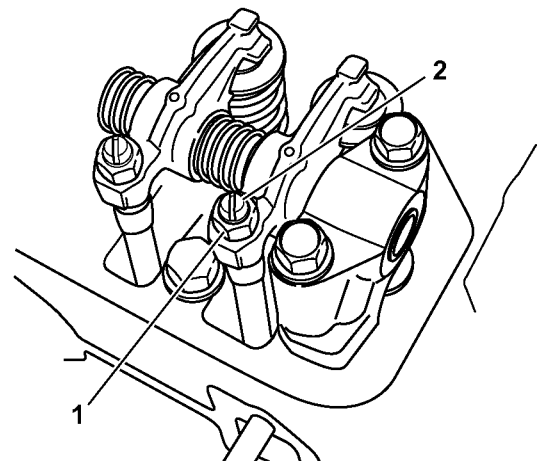
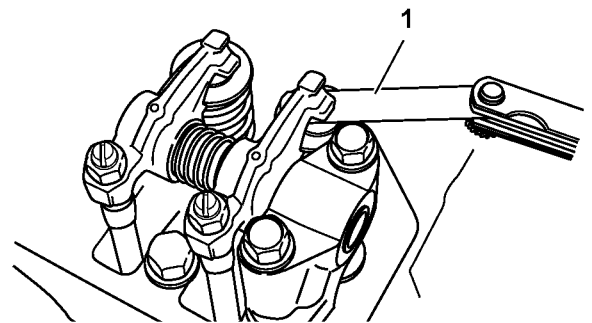

Figure 6-78
Figure 6-79
5. Loosen the valve adjusting screw lock nut (1, **Figure 6-78**) and valve adjusting screw (2, **Figure 6-78**) on the rocker arm and check the valve for inclination of the valve cap, entrance of dirt, or wear.
6. Insert a feeler gauge of the correct thickness (1, **Figure 6-79**) (see *Adjustment Specifications on page 6-4*) between the rocker arm and valve cap. Turn the valve adjustment screw to adjust the valve clearance so there is a slight “drag” on the feeler gauge when sliding it between the rocker arm and the valve cap. Hold the adjusting screw while tightening the valve adjusting screw lock nut (1, **Figure 6-78**). Recheck the clearance.